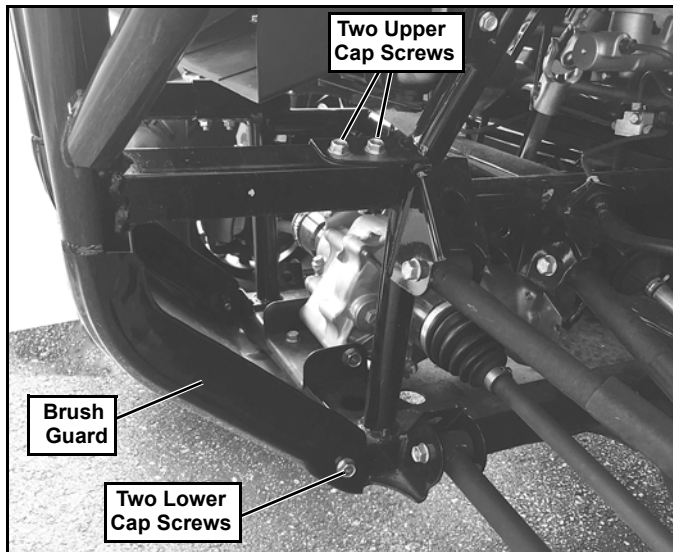

Figure 1
1. Remove the (2) lower Cap Screws (one on each side) holding the brush guard to the frame. (See Figure 1.)
- On the drivers' side remove the upper (2) Cap Screws holding the brush guard to the frame. (See Figure 1.)